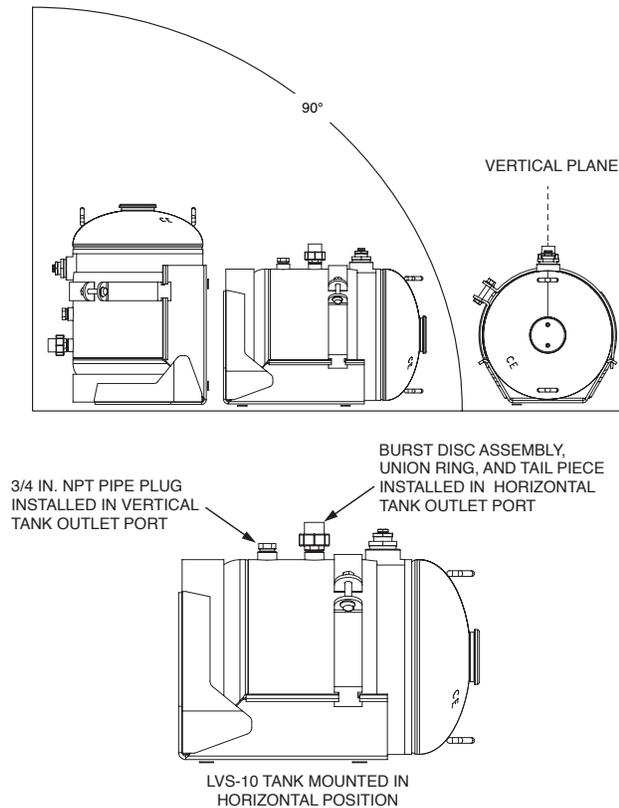

FIGURE 5-3
- 1. Position LVS-10 tank on a rigid area capable of supporting weight of full tank assembly, making sure there is no interference with any vehicle components, access panels, or doors. The tank can be mounted in either a vertical or horizontal position or at any position between 0° and 90°. When mounted in horizontal position, tank outlet must point up, parallel to the vertical plane. See Figure 5-3.
- In horizontal position, sealed burst disc assembly, union ring and tail piece must be removed from factory-installed position in vertical tank outlet port and re-installed in horizontal tank outlet port. To do so, remove 3/4 in. NPT pipe plug from horizontal tank outlet port and set aside for reinstallation. Remove sealed burst disc assembly, union ring, and tail piece from vertical tank outlet port. Clean burst disc threads and carefully apply thread tape to threads, and reinstall in horizontal tank outlet port. Wrench tighten. Clean threads on 3/4 in. pipe plug and carefully apply thread tape to threads, and reinstall in vertical tank outlet port. Wrench tighten. See Figure 5-3 (next page).